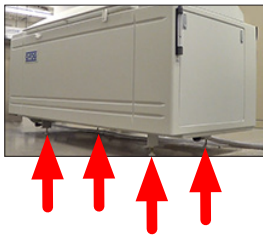

Figure 6.3a: Standard leveling caster.
- The Q-FOG is equipped with leveling casters that can be adjusted to level the chamber (Figure 6.3a).